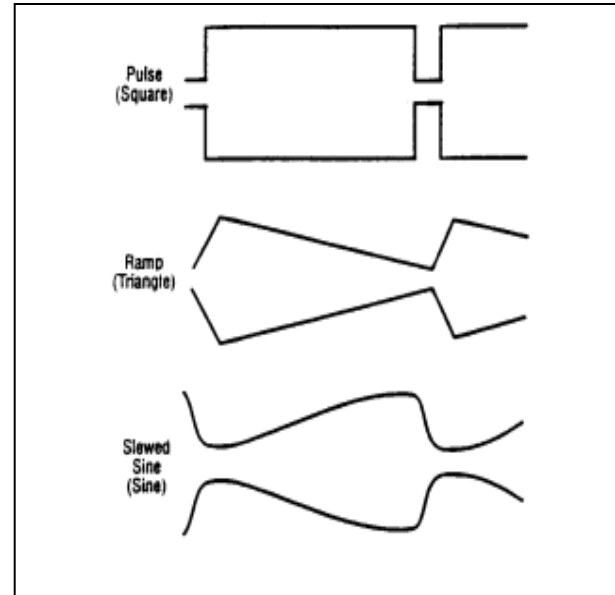

Figure 4. Effects of Symmetry Variation.
The **DUTY CYCLE** control can be used to alter the symmetry of the output waveform, to produce waveshapes such as those shown in Fig. 4. For a square wave, symmetry variation amounts to changing the duty cycle (ratio of "high" to "low" time), effectively converting the instrument into a pulse generator. For a triangle wave, the result is a ramp, and with a sine wave, a distorted waveshape called a slewed sine is produced. The Model 4010A provides for symmetry variation from 15% to 85%.
2. Engage the **DUTY CYCLE** switch (14) and adjust the **DUTY CYCLE** control (10) for the desired waveshape. Clockwise rotation from center results in an increase in square wave duty cycle, and changes the sine and triangle waves as shown in the top waveform of each pair of Fig. 4. Counter-clockwise rotation results in the bottom waveform in each pair.